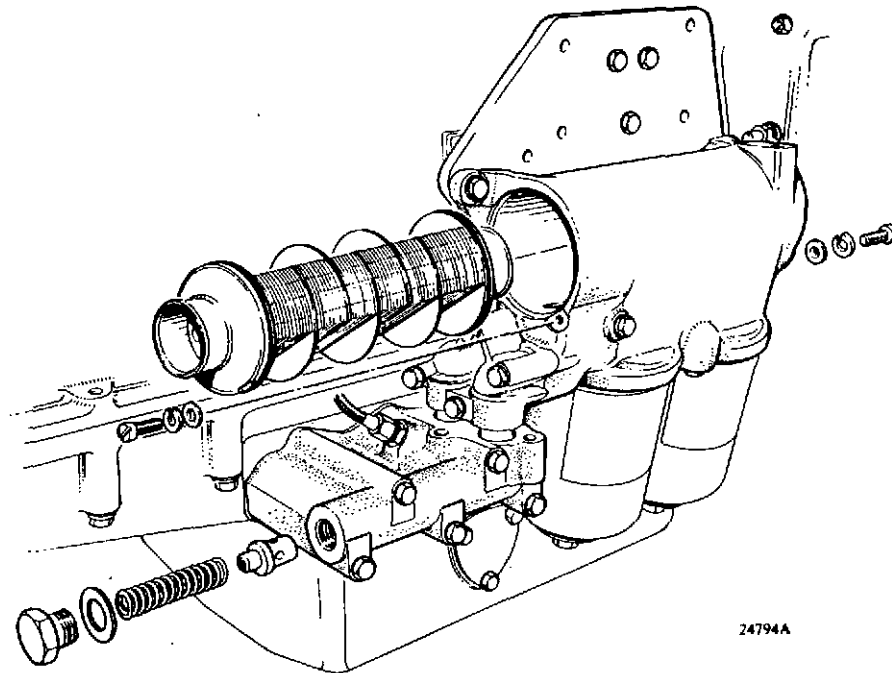

Fig. 4 Relief valve and heat exchanger—exploded
The valve assembly (fig. 4) is bolted to the sump panner at front or rear of the engine, dependent on installation requirements. It consists of a non-adjustable spring-loaded plunger in a casting which is directly connected to the pressure pump outlet. Pressure in excess of approximately 60 lbf./sq. inch (414 kN/sq.m) causes the plunger to move against its spring, uncovering ports by which surplus oil is returned to the sump.
2. Unscrew the 2BA screw from each end of the housing and push the tube pack forward so that the front 'O' ring can be removed. Then withdraw the pack rearward (fig. 4). Do NOT attempt to push an 'O' ring through the housing, since it could foul an oilway port and cause the pack to become jammed.